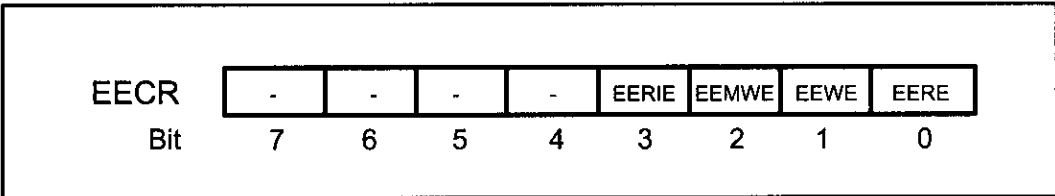

Figure 6-16. EEPROM Control Registers
The EECR register is used to select the kind of operation to perform on. The operation can be start, read, and write. In Figure 6-16 you see the bits of the EECR register. The bits are as follows:
**EEPROM Ready Interrupt Enable (EERIE):** In Chapter 10 you will learn about interrupts in AVR. As you see in Figure 6-16, bits 4 to 7 of EECR are unused at the present time and are reserved.